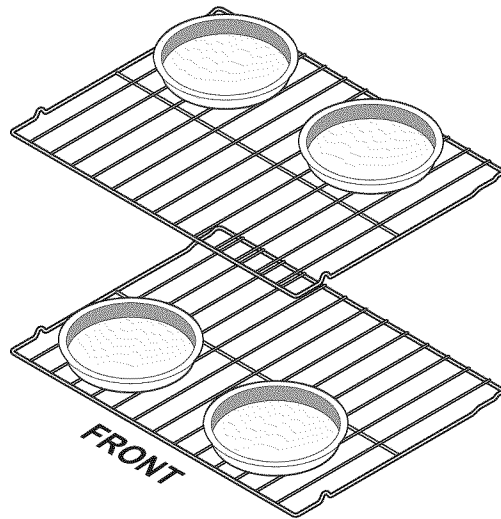
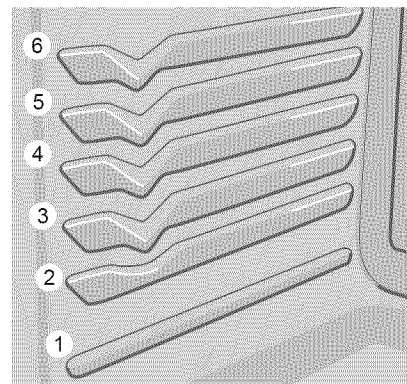

Figure 10: Baking on multiple levels
Fig. 11 Oven rack positions
- For best results when baking cakes or cookies using 2 oven racks, place cookware as shown in Fig. 10, on page 14 and place racks in rack positions 3 & 5. (Fig. 11, on page 14)